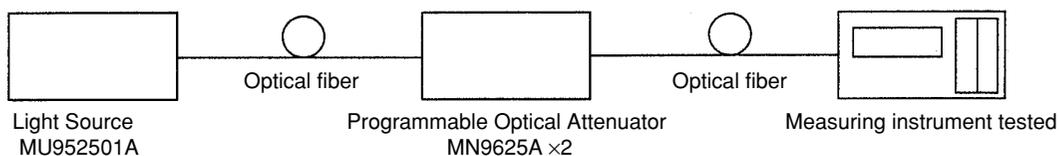

Fig. 5-1
1. Set up a measurement system like that shown in Fig. 5-1.